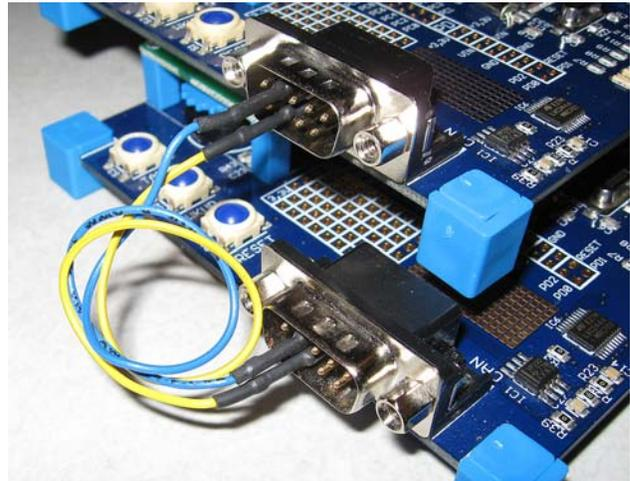

Figure 31 Connecting the two boards together
1. Scroll in the CanDemo.c window to the C source code at line 155 as shown below in Figure 31. You might have to move the Trace windows away – they are always on top.
Note that if you enable exceptions in the Trace Records window you can see an exception 35 but not the 36 as shown below in Figure 31. This is probably because the SWV is being overloaded.